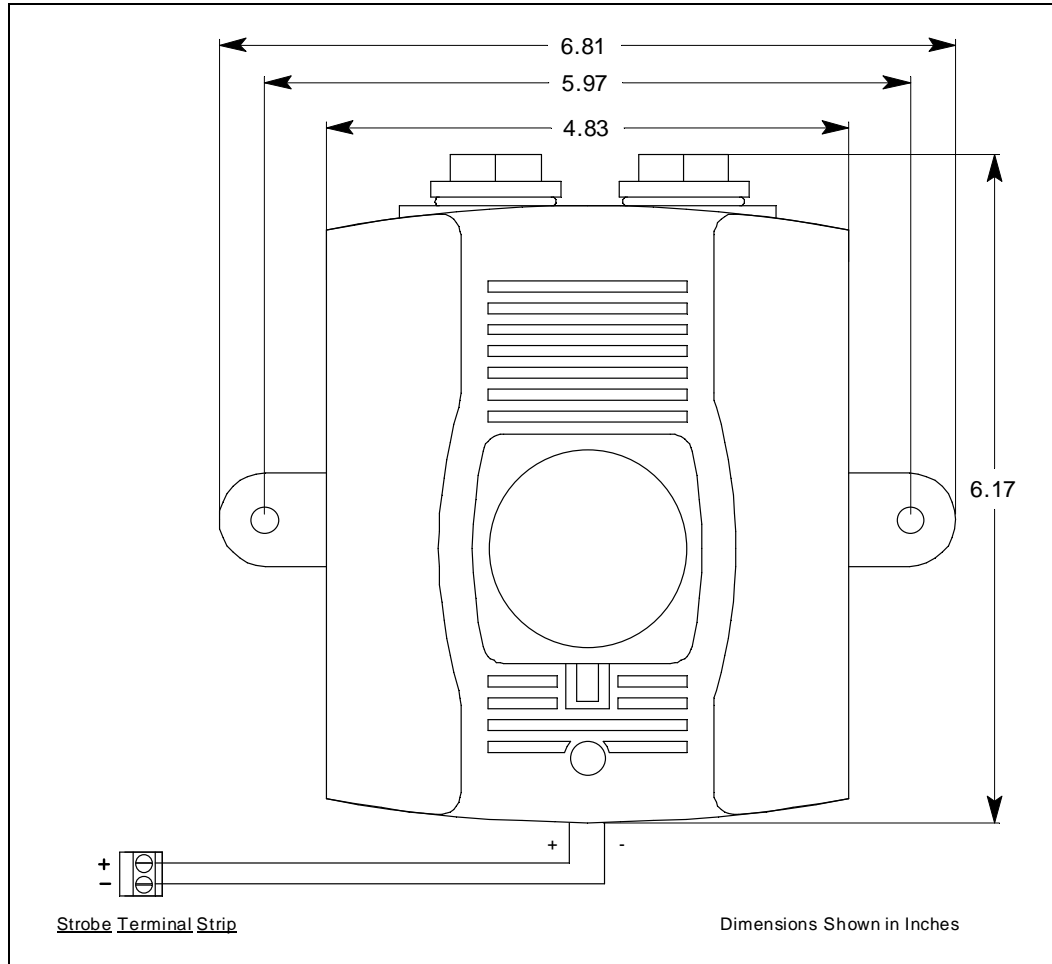

Figure 8: Horn/Strobe Wiring/Outline and Mounting Dimensions
6. Connect the leads from the external alarm device and an external power source to the selected channel alarm or common/channel alarm relay contact terminals as shown in Figure 8.